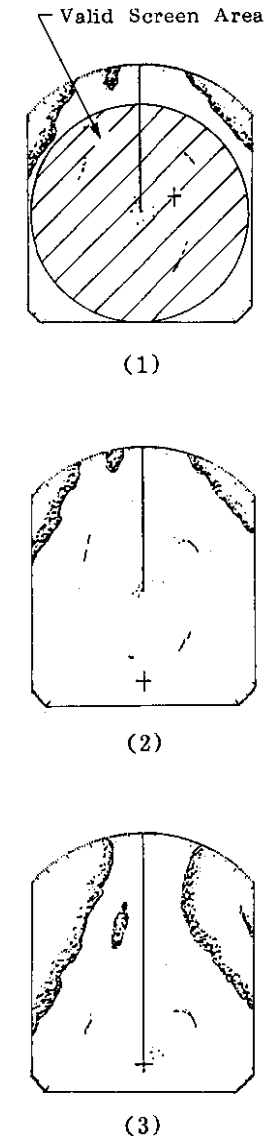

Fig.31 Shifting the Display
The own ship's position can be shifted to any position within the range in use. See Fig.31(1). The primary advantage of the shifted (off-center) display is that for any particular range setting the view ahead, behind or on the sides of own ship can be extended without changing the range in use.
1. Place the cross-hair on the L/L position to where you want to shift your own ship's position. See Fig.31 (2).
2. Press the  touchpad, and the own ship's position is off-centered. See Fig.31 (3).